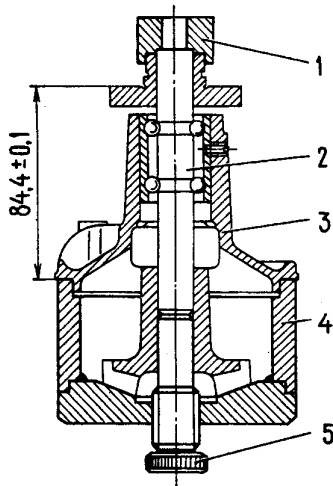

Fig. 2-65. Installing Impeller on Pump Shaft with Tool A.60430:
- using installation tool A.60430 (Fig. 2-65) force the pulley hub on the shaft ensuring a dimension (84.4 ± 0.1) mm. If the hub is made of ceramet, only a new hub should be pressed on;